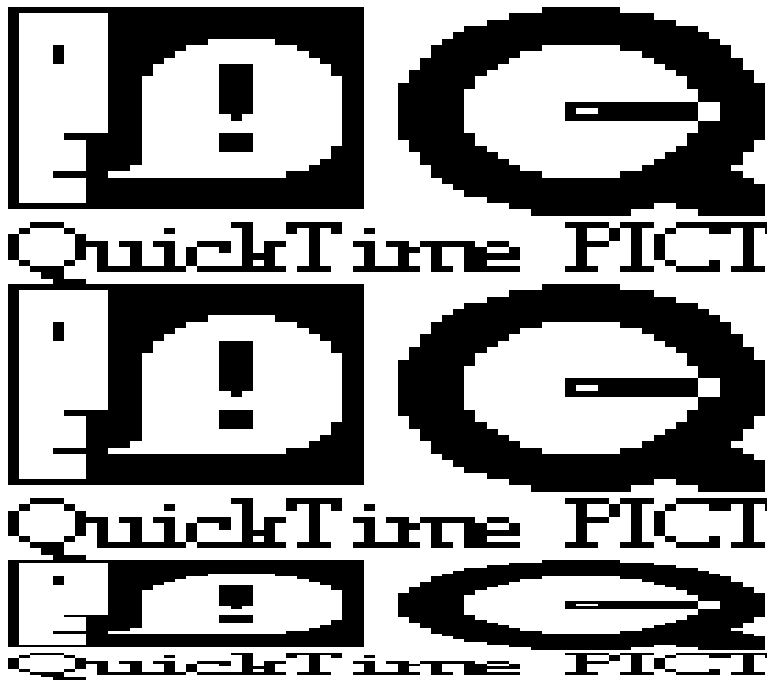

Figure 3. Protruding Screw Length
- 6.3 Before allowing the bond to cure, verify the distance between the top surface of the screw and the top surface of the retainer. See Figure 3. This distance is required to be 0.42 +/- 0.01 inch.